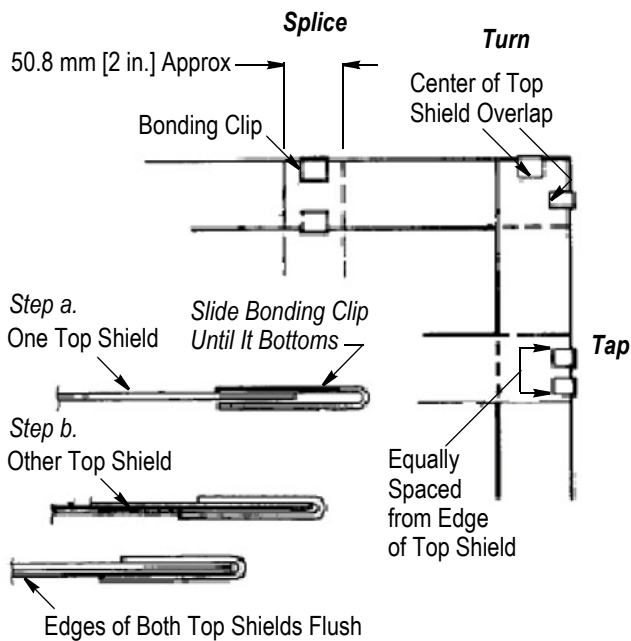

Figure 6
3. Connect the top shield to the taps, splices, and turns using 2 top shield bonding clips at each tap, splice, and turn as shown in Figure 6 and according to the following: